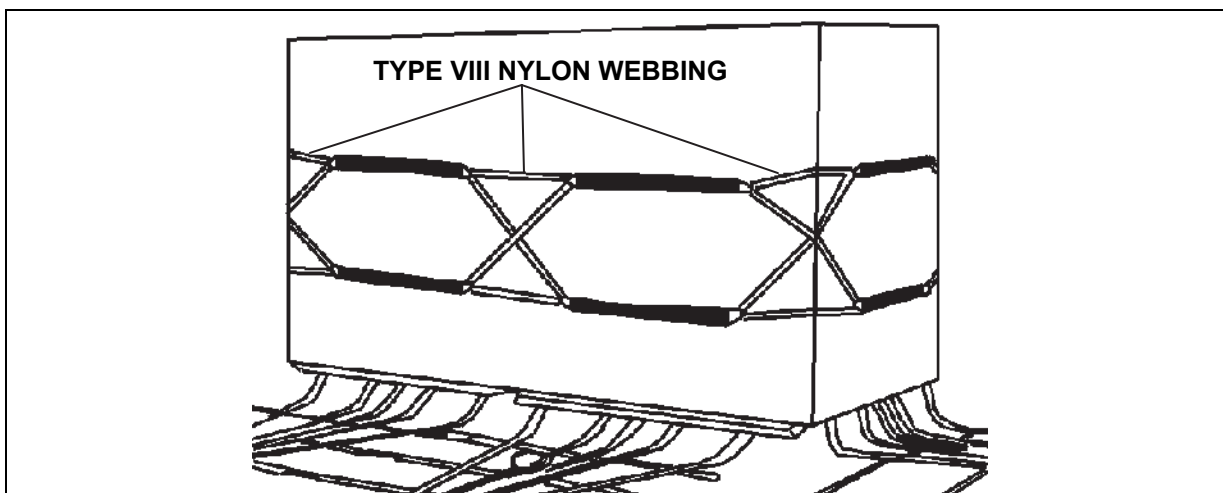

Figure 8-13. Cover Ties Installed
- Use six lengths of 1/2-inch tubular nylon webbing to lace the cover closed. Pull the webbing tight and tie the running ends in a surgeon's knot and bow knot. Tape the excess and knots leaving one running end slightly exposed to allow rapid derigging (figure 8-13).